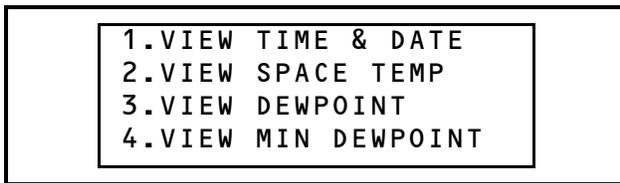

Figure 1-39 - Status View Screen (First Screen)
22. Press the  button to go back to first Status View screen (**Figure 1-39**) or the  button to go back to the last Status View screen you were on.